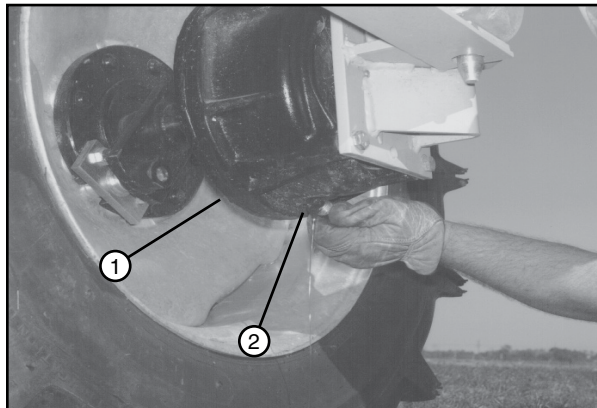

Figure 42-1 1. Wheel Gearbox
1. Remove the drain plug from the bottom of the wheel gearbox and drain the oil into a container. See figure 42-1.